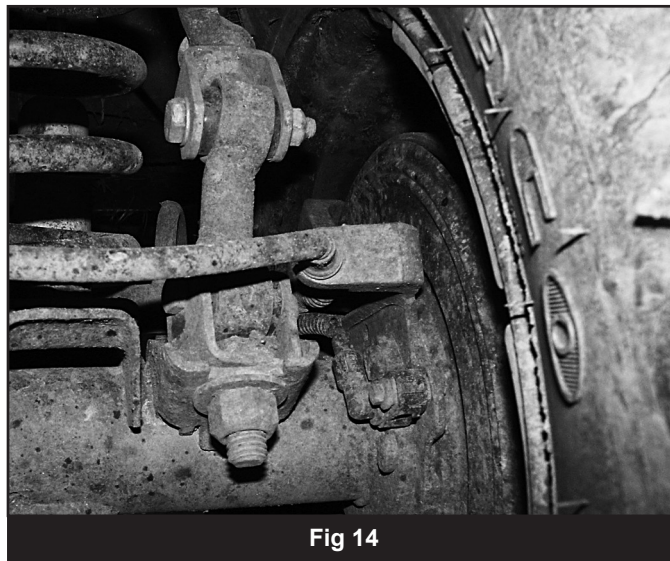

Fig 14
78. Attach sway bar links to u-brackets with 3/8" x 2-1/2" bolts, run bolts from inside to outside (Fig 14). Tighten 3/8" hardware to 30 ft-lbs and 5/8" hardware to 75 ft-lbs